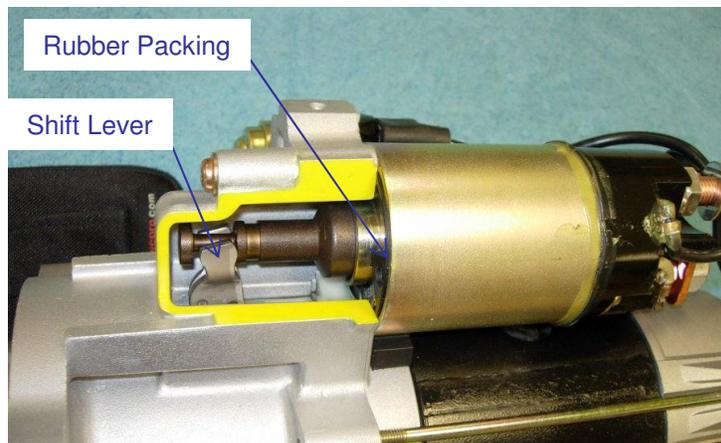

Figure 3: Shift Lever and Rubber Packing
- 2) Re-connect solenoid's plunger with starter's shift lever as shown in Figure 3. This is most easily done with the pinion extended. The solenoid M terminal's threaded post is shorter than the B terminal's threaded post. The M terminal should be closest to the motor